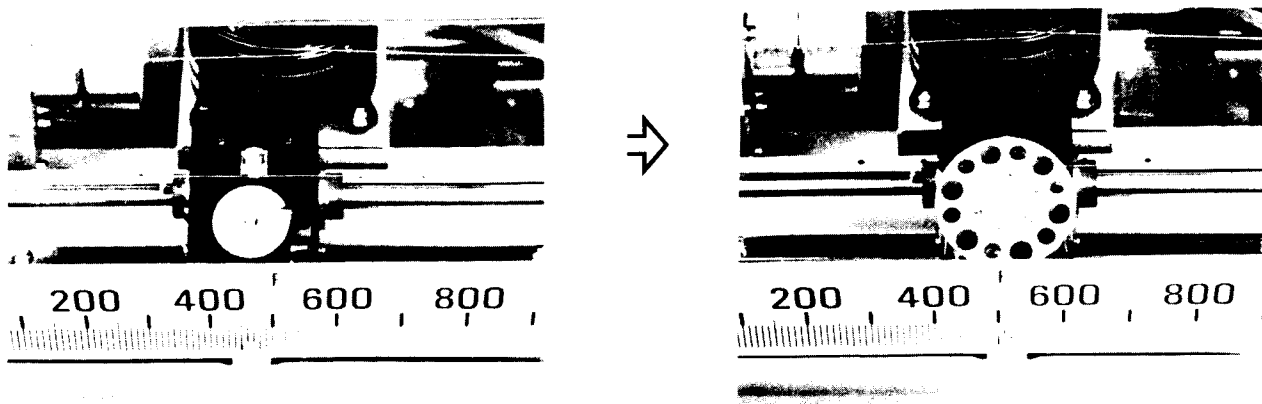

Figure 2-5. Installing Ink Pad Wheel
1. Take the pad wheel out of the accessory box. Open the protective glass door. Grasp the hand grip and roll out the chassis. The pad carriage is located on the top left side of the recorder. Place the pad wheel on the pad carriage with the pad wheel pin fitting into the pad groove. See Figure 2-5.